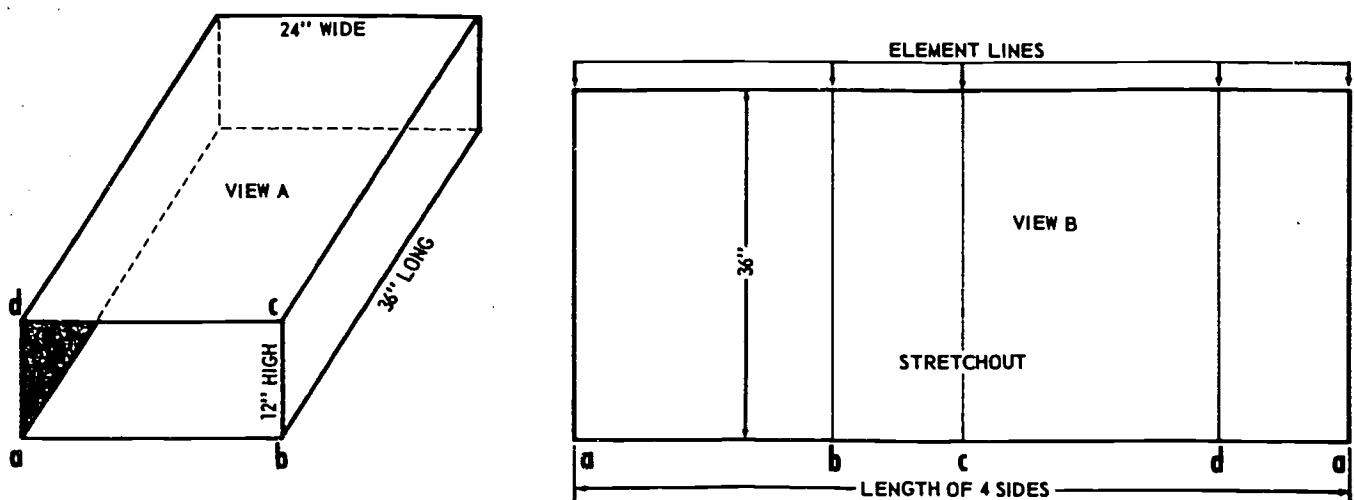
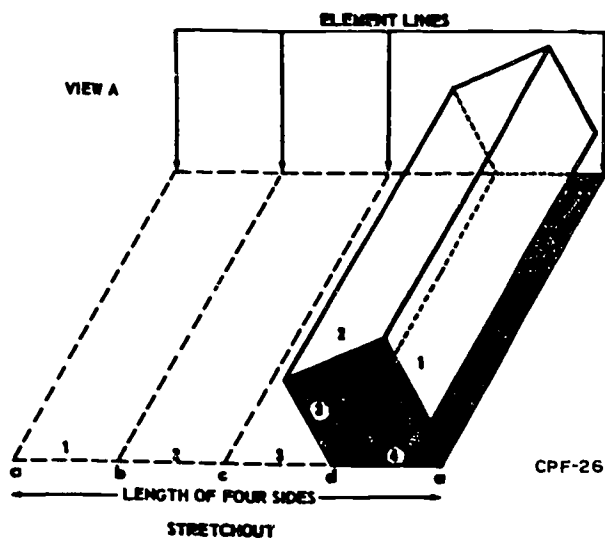

Figure 1-62. Parallel line pattern development for a rectangular duct.
Figure 1-63. Parallel line pattern development for a square duct.
**Flat Pattern Layouts.** Flat pattern layouts are drawings that show the shape of components in the flat or stretched out position. You studied many kinds of figures such as triangles, squares, rectangles, prisms, cones, and pyramids. Now in figure 1-62, view A, you can see a section of a rectangular sheet metal duct. View B shows a flat pattern or stretchout of the same duct. Note that the stretchout is a series of rectangles. In figure 1-63, you can see the stretchout of a square duct. In figure 1-64, view A, you can see the half plan and elevation views of a round duct, and in view B the stretchout of a round duct (cylinder).
When laying out patterns of objects (such as straight ducts that are round, square, or rectangular), a parallel line stretchout (figs. 1-62, 1-63, and 1-64) can be used to show the shape of the part. However, this simple type of stretchout cannot be used to lay out round, square, or rectangular objects that are larger on one end than the other. These more complex flat pattern layouts involve additional layout methods such as the radial line method and triangulation method. The three methods are discussed in more detail in the following paragraphs.
**Parallel Line Layout Method.** The parallel line method of layout is used to develop patterns for components that have parallel sides. True lengths of elements play an important part in parallel line development. Element lines, as shown in figures 1-63 and 1-64, are equally spaced lines used to layout the pattern. In parallel line development, all element lines are parallel or perpendicular to each other. The length of the duct section (or true length) is indicated by the length of the element lines. True length does not include the seam allowances.
Now, let's develop patterns for the square, round, and rectangular ducts, starting with view A in figure 1-62. As you see, sides ab and cd are the same width, and bc and da are the same width. To lay out a pattern for view A, the length, height, and width of the four sides are needed. Suppose the duct measurements are 24 inches wide, 12 inches high, and 36 inches long (24" x 12" x 36" long). The flat pattern is laid out by drawing a straight line (stretchout) equal to the perimeter of the four sides. Element line a on the left, which is 36 inches long, is drawn perpendicular to the stretchout line. Element line b is drawn 24 inches from element line a and parallel to element line a. Element line c is drawn 12 inches from element line d and parallel to element line d. All the element lines are 36 inches long (the true length of the duct). The element lines should be joined across the top to complete the pattern. It is a good practice to check the pattern for correct dimensions and squareness after it has been developed. This pattern can be formed into a rectangular-shaped duct by breaking 90° (bending the metal) at element lines b, c, and d.
Figure 1-63 shows the stretchout of a square duct. The parallel line layout method is used to develop square duct patterns the same as those for rectangular ducts. The stretchout length is the perimeter or the sum of the four sides: 1, 2, 3, and 4. The length of the element lines is determined by the true length of the duct. To form the stretchout into a square duct, the element lines b, c, and d are broken at 90° angles.